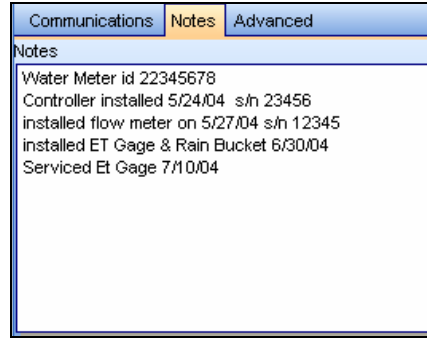

Figure 4.2.4
1. By clicking on the “Notes” Tab you will open up an area where you can enter additional information about the controller (Figure 4.2.4).